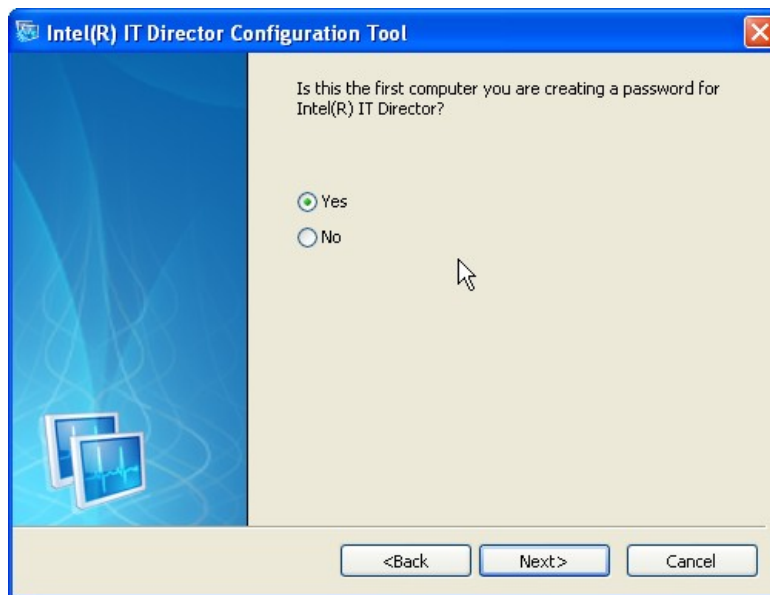

Figure 6-33: IT Director – Creating Password
Step 17: Select whether this is the first computer you are creating a password for IT Director. (**Figure 6-33**).